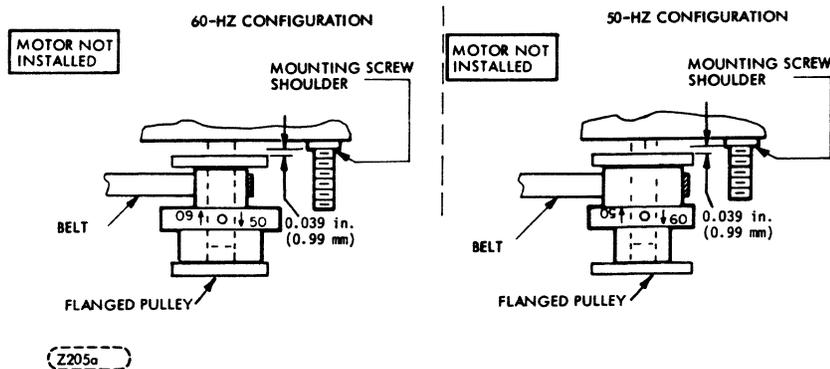

FIGURE 6-11. DRIVE-PULLEY REVERSAL
- f. Position pulley allowing tolerance of 0.039 in. (0.99 mm)  $\pm$  0.10 in. (0.254 mm) between shoulder of motor mounting screws and pulley (Figure 6-11).